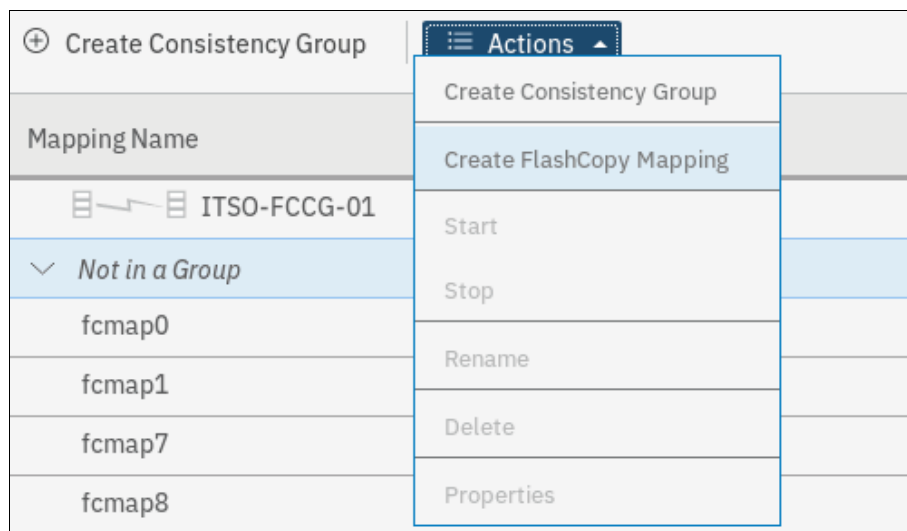

Figure 10-40 Creating a FlashCopy mapping
2. Select the consistency group in which you want to create the FlashCopy mapping. If you prefer not to create a FlashCopy mapping in a consistency group, select **Not in a Group**, and right-click the selected consistency group or click **Actions** → **Create FlashCopy Mapping**, as shown in Figure 10-40.